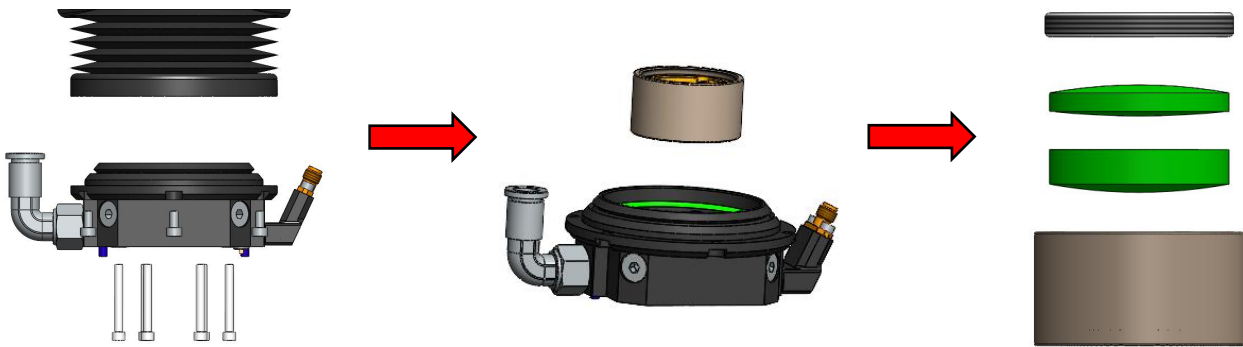

Figure 3.2
- ① As shown in Figure 3.2, remove the focusing tube along with the sensor assembly. Use a 3mm hex wrench to loosen the centering screw, remove the focus lens holder, then withdraw the lens clamp ring, and remove and replace the lens.